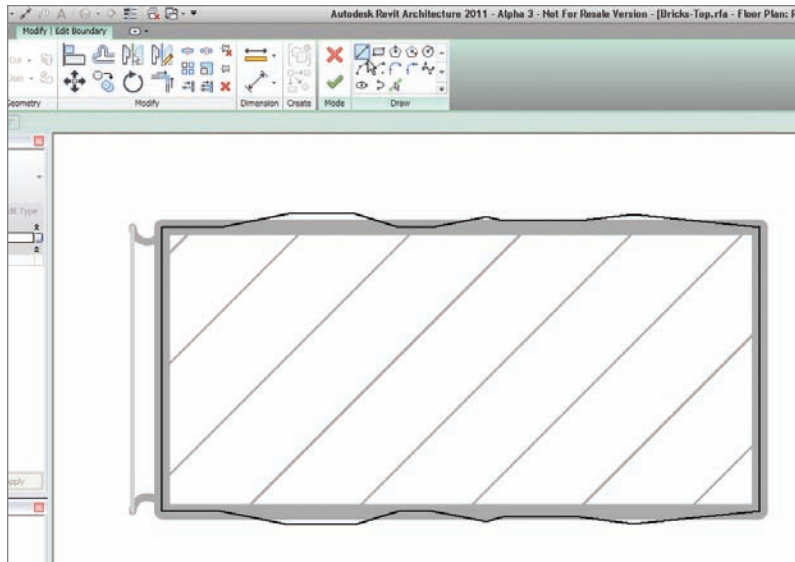

FIGURE 12.19 Adding a texture to the brick family
4. On the Draw panel, select the Line button, as shown near the top of Figure 12.19.
6. Draw a series of jagged lines, as shown in Figure 12.19.